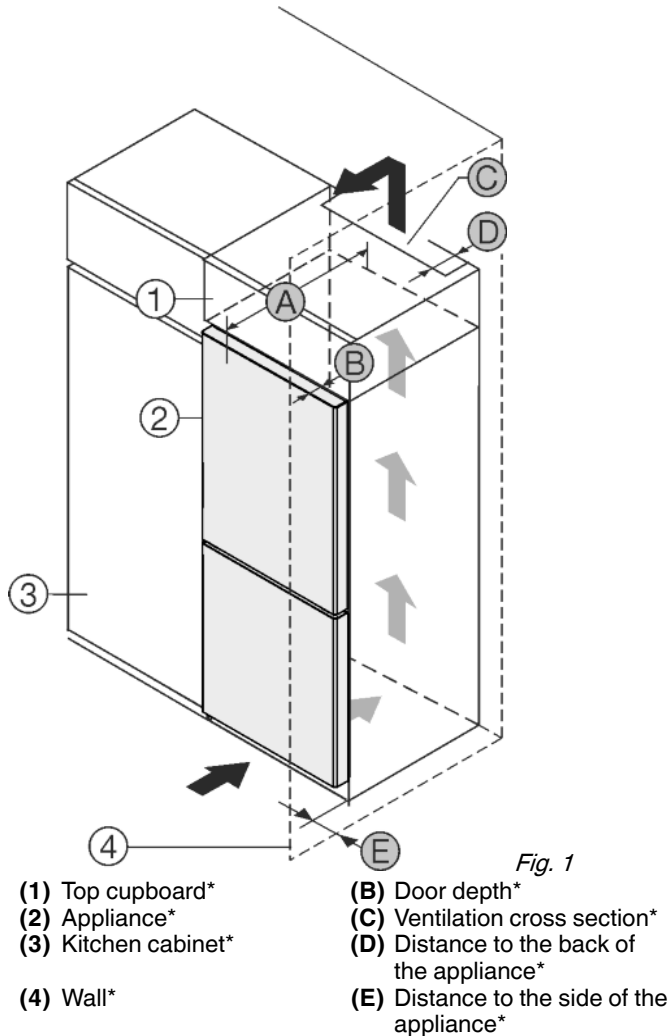

Fig. 1
Set up the appliance directly next to the kitchen cabinet Fig. 1 (3).*
Set up the appliance with a distance of 5 cm between the appliance and the kitchen appliance Fig. 1 (3).*
At the back of the top cabinet, there must be an air outlet shaft with the depth Fig. 1 (D), spanning the entire width of the cabinet.*
The ventilation cross-section Fig. 1 (C) must be maintained under the ceiling.*
If the appliance is set up with the hinges next to a wall Fig. 1 (4), the distance between the appliance and the wall must be at least 40 mm. This is how far the handle protrudes when the door is open.*
The appliance must protrude by the depth of the door Fig. 1 (B) from the front of the cabinet so that the doors can be opened fully. The appliance may protrude further depending on the depth of the kitchen cabinets Fig. 1 (3) and whether wall spacers are used.*
The appliance must protrude by the depth of the door (B) from the front of the cabinet so that the doors can be opened fully. The appliance may protrude further depending on the depth of the kitchen cabinets Fig. 1 (3) and whether wall spacers are used.*